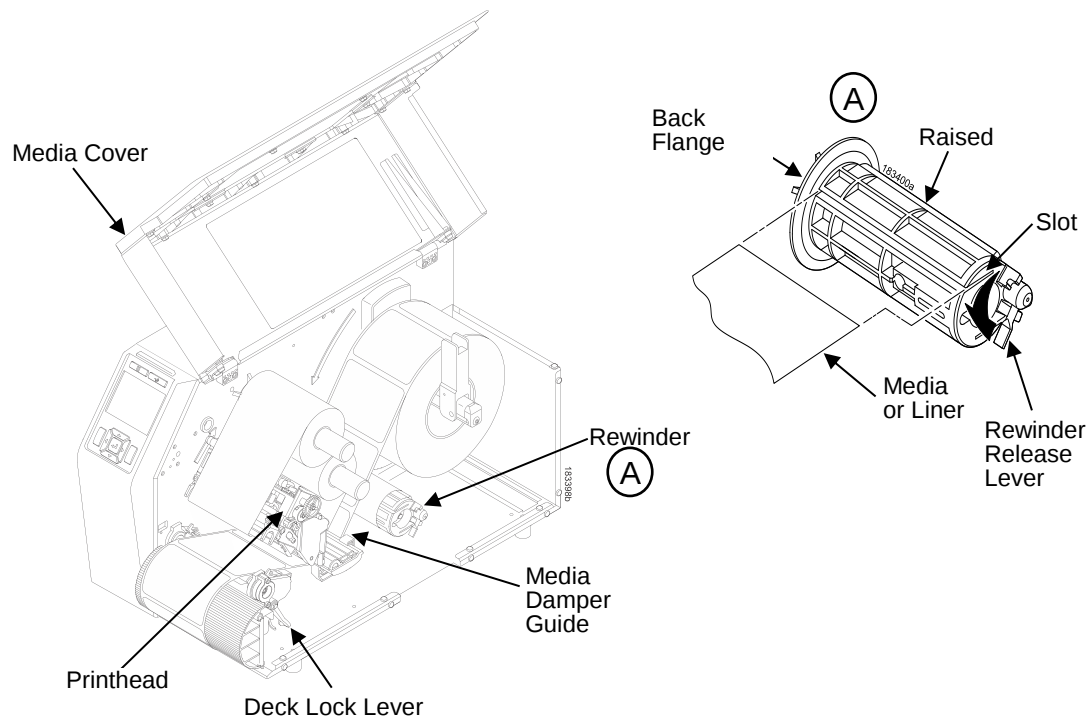

Figure 1 Loading Media
6. Slide the Media Damper Guide, ref *Figure 1 Loading Media* page 33, to the outer edge of the media.
1. Open the media cover, (ref *Figure 1 Loading Media*).